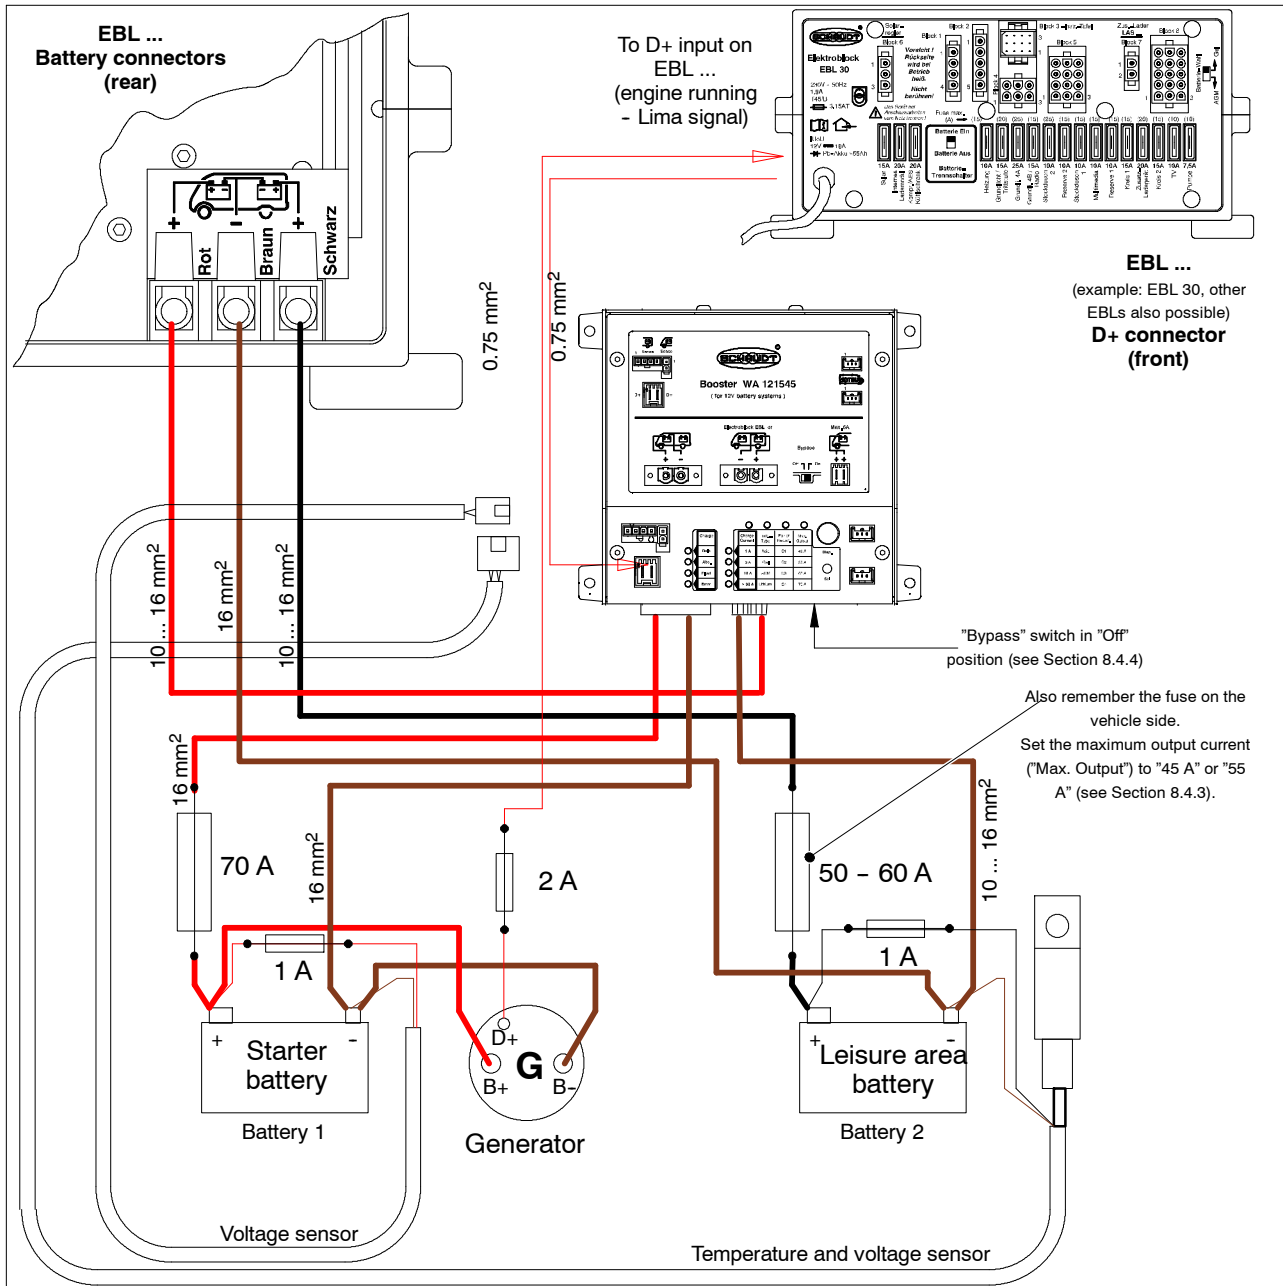

Fig. 6 Vehicles with Schaudt EBL ... - ground on booster
- ▶ Establish all cable connections as in Figure 6, 7 or 8. Ensure the cables have the cross sections required and that the fuses are installed correctly. Do not yet insert the fuses into the sockets.
Use Simple connection of the booster to the vehicle-side system provided the fuses is already present on the vehicle, e.g. in the case of a standard Schaudt EBL ... (see example fig. 6).